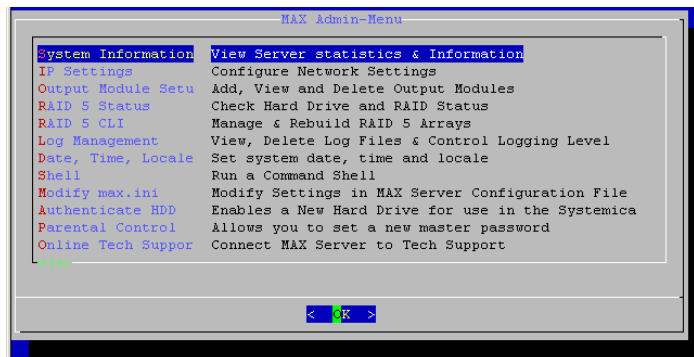

FIG. 50 Admin Menu
3. Once you have logged in, the Admin Menu is displayed (FIG. 50).